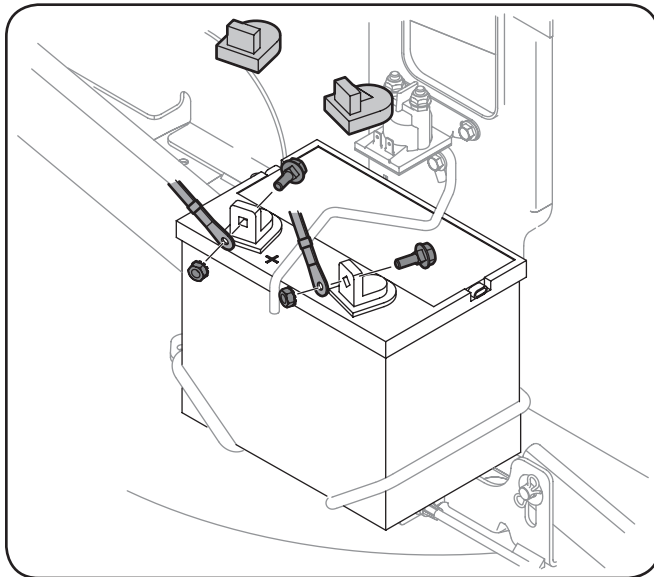

Figure 3-14
2. Remove the plastic cover, if present, from the positive battery terminal and attach the red cable to the positive battery terminal (+) with one of the bolts and hex nuts, previously removed, using a $\frac{7}{16}$ inch wrench and socket. See Figure 3-14.
3. Remove the plastic cover, if present, from the negative battery terminal and attach the black cable to the negative battery terminal (-) with the remaining bolt and hex nut. See Figure 3-14.